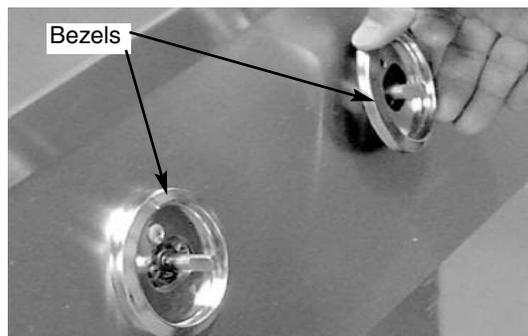

Fig 14
(See Fig. 14)
20. Reattach the bezels to the manifold with the single screw on each one. (See Fig. 14 & 13)